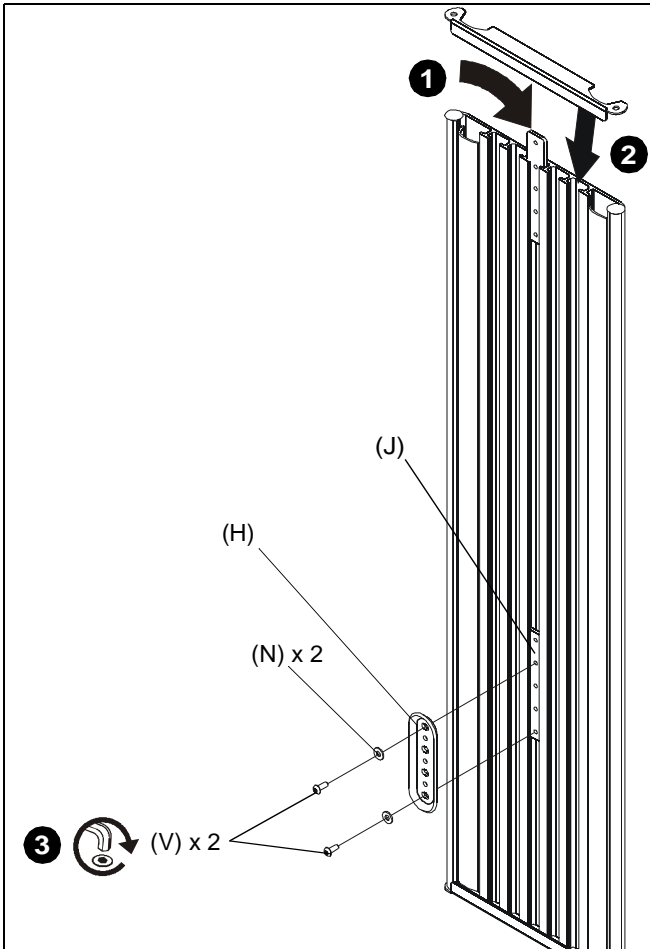

Figure 40
1. Remove side cover to slide locking plate brackets (J) into wall track accessory (A) at the desired mounting location. (See Figure 40)
2. Reinstall side cover to wall track accessory after all locking plate brackets have been inserted. (See Figure 40)
3. Use 1/8" hex key (BB) to install #10 button head cap screws (V) through #10 washers (N) and wall plate (H) into center holes of locking plate brackets (J). (See Figure 40)
NOTE: Wall brackets must be secured by installing screws through the top and bottom holes of the wall plate (H). (See Figure 40)
4. Ensure wall plate (H) is vertical, then tighten screws (V).